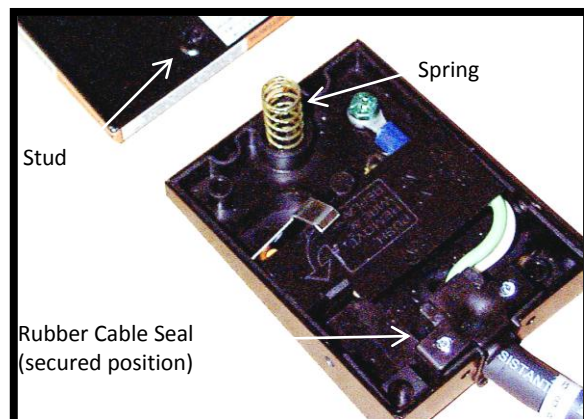

Figure 32: R/L Switch Ready for Closing
5. Remove the top of the R/L switch. **Note:** A spring is trapped between the top and bottom parts of the switch (Figure 32) and may fall out. Don't lose it.
8. Route the green, black, and white wires so that the cable neatly seats in its opening (Figure 32).
10. Place the spring in its well (Figure 32).